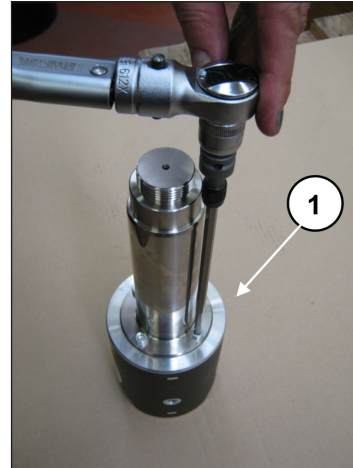

Fig. 47
To separate the rod from the piston guide, unscrew the hexagonal head M6 screws with a special wrench (pos. ①, Fig. 47).